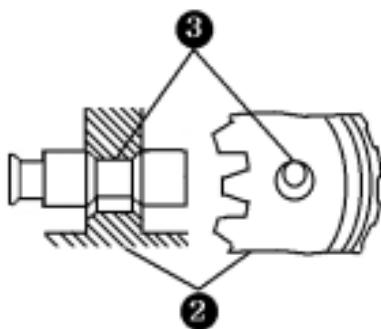

Fig.5-5 Block-pin
At the moment when both the friction surfaces come into contact, the ring turns by as much as the surplus space in hub(2) for block pin(3) as shown in Fig.5-5